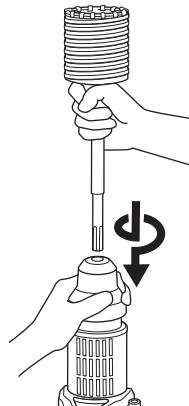

Fig. 18
- Mount the core bit shank to the Rotary Hammer. (Fig. 18)